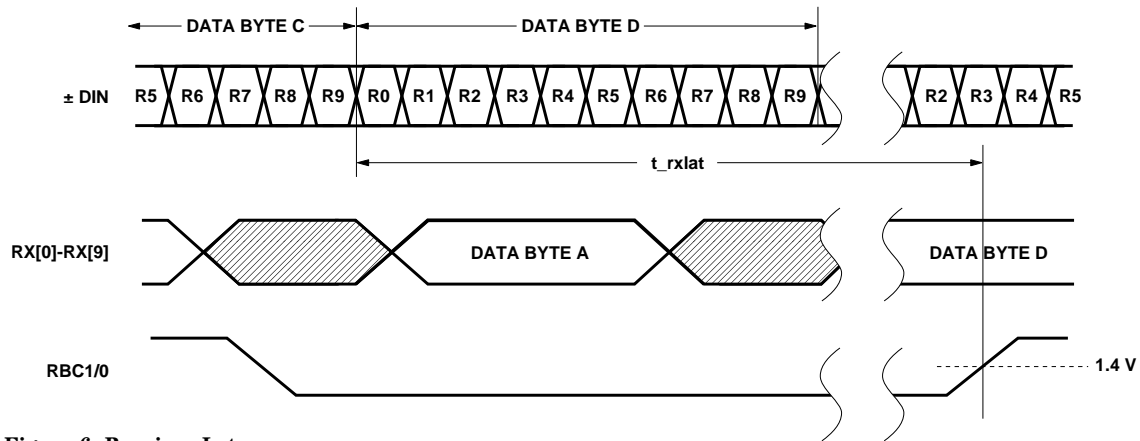

Figure 6. Receiver Latency.
4. The receiver latency, as shown in Figure 6, is defined as the time between receiving the first serial bit of a parallel data word (defined as the first edge of the first serial bit) and the clocking out of that parallel word (defined by the rising edge of the receive byte clock, either RBC1 or RBC0).
5. The receiver latency, as shown in Figure 6, is defined as the time between receiving the first serial bit of a parallel data word (defined as the first edge of the first serial bit) and the clocking out of that parallel word (defined by the rising edge of the receive byte clock, either RBC1 or RBC0).